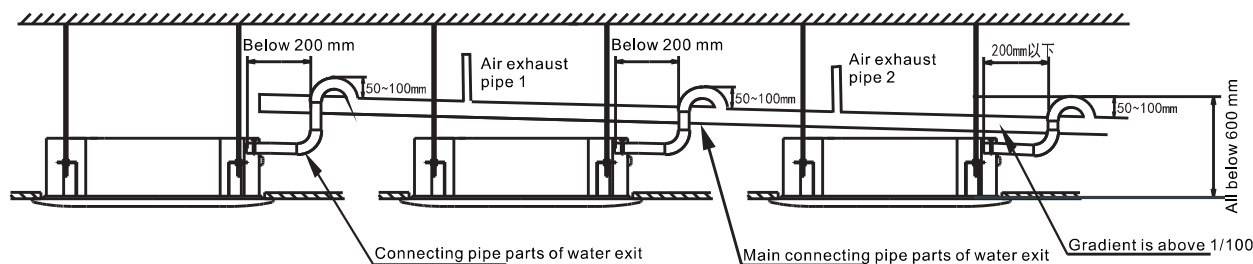

Figure 4.2 Drainpipes of Several Units Connect with Sewer through Main Drainpipe
8) If the exit of drainpipe is higher than pumping connecting pipe of main body, drainpipe should be kept vertical upwards as it is possible. The connecting pipe part of water exit has the function of bending vertically and the drainpipe should be set within 600 mm from water tray. Otherwise, when it stops, too much water that flows back will cause overflow. (See Figure 4.2)